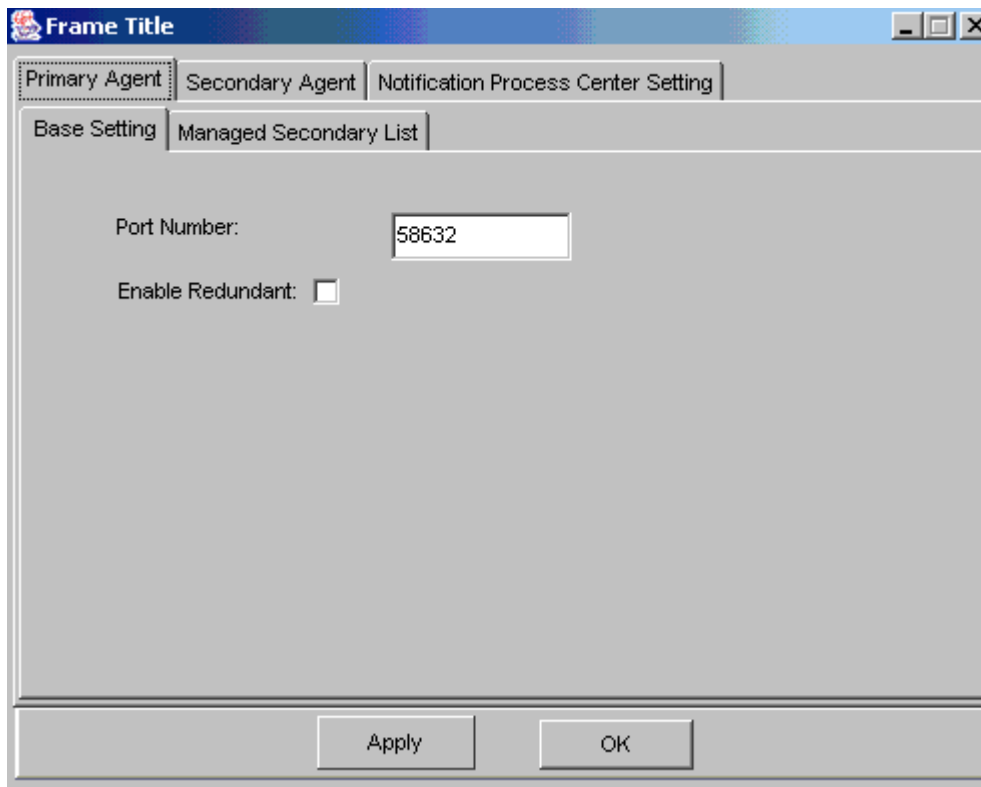
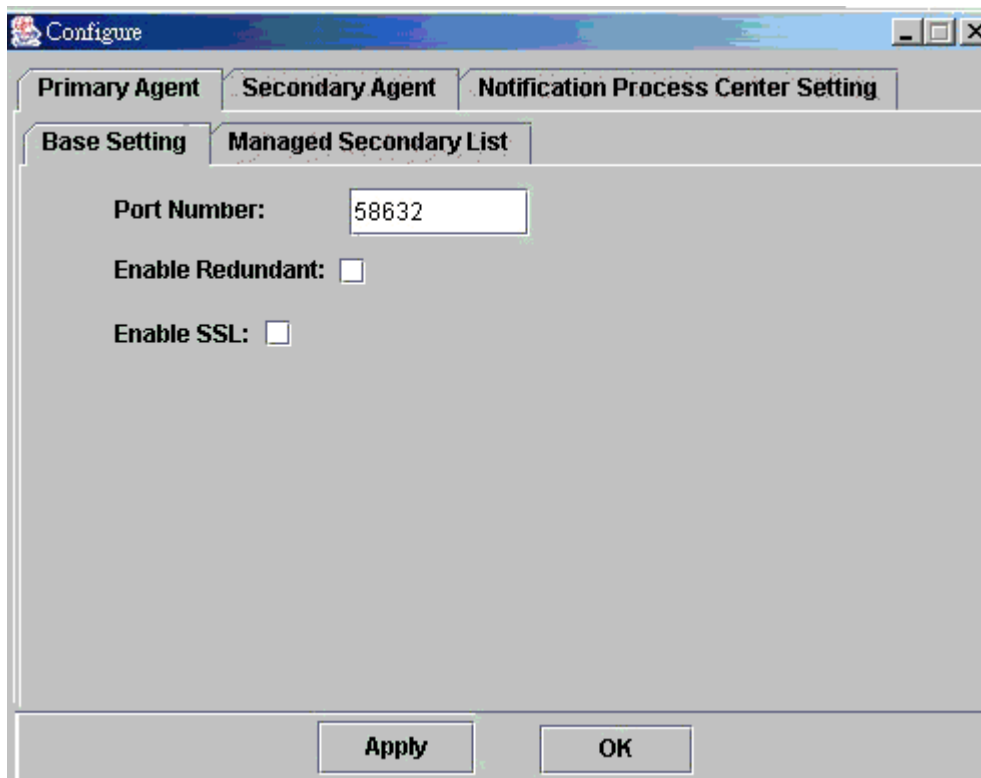

Figure 3-2: In-Band Configuration Panel
Figure 3-3: Applet Only Configuration Panel
Step 3. Once “*Configure*” has been selected, the “*Configuration Panel*,” shown in *Figure 3-2* will appear. Users can configure the following Items:
If, during the installation process outlined in Chapter 2, the “*Applet Only*” option was selected, the RAIDWatch GUI must be accessed through a web browser. To access the configuration panel shown in *Figure 3-3*, type in the controller IP address (see *Section 2.4.5*) followed by “*configure.htm*.” i.e. if the controller IP Address is *ww.xx.yy.zz*, in the address line of the web browser type:
The screen shown in *Figure 3-3* will appear.
It can be seen that the difference between *Figure 3-2* and *Figure 3-3* is the “*Enable SSL.*”